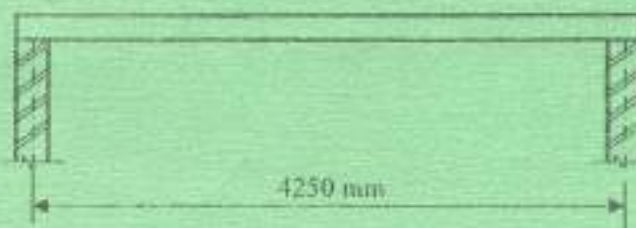

Fig. 1
3. (a) A reinforced concrete floor is subjected to an imposed load of 4 kN/m and spans between break walls as shown in figure 1. Design the floor with a concrete cover of 25 mm.  $f_{cu} = 35 \text{ N/mm}^2$  and  $f_y = 460 \text{ N/mm}^2$ .